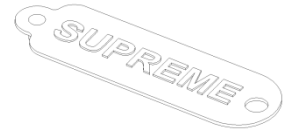

Figure 4 – PAC Key
2. Close the door and activate the Easy-Light by using the PAC Key (Figure 4). Wait 2-3 minutes for the embers to be activated.